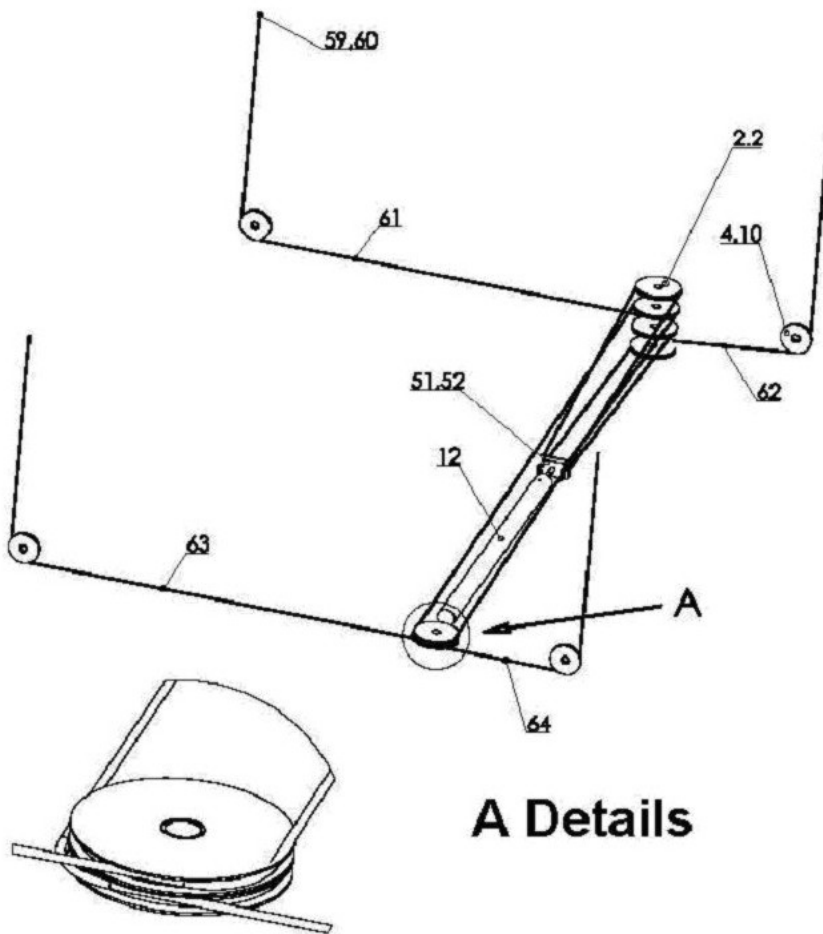

Figure 2-5. Cable Routing Details
5. Install the cables listed below through crossbeams. It is easier to slide cable thru crossbeam with covers on. See figure 2-5 for cable routing diagram.